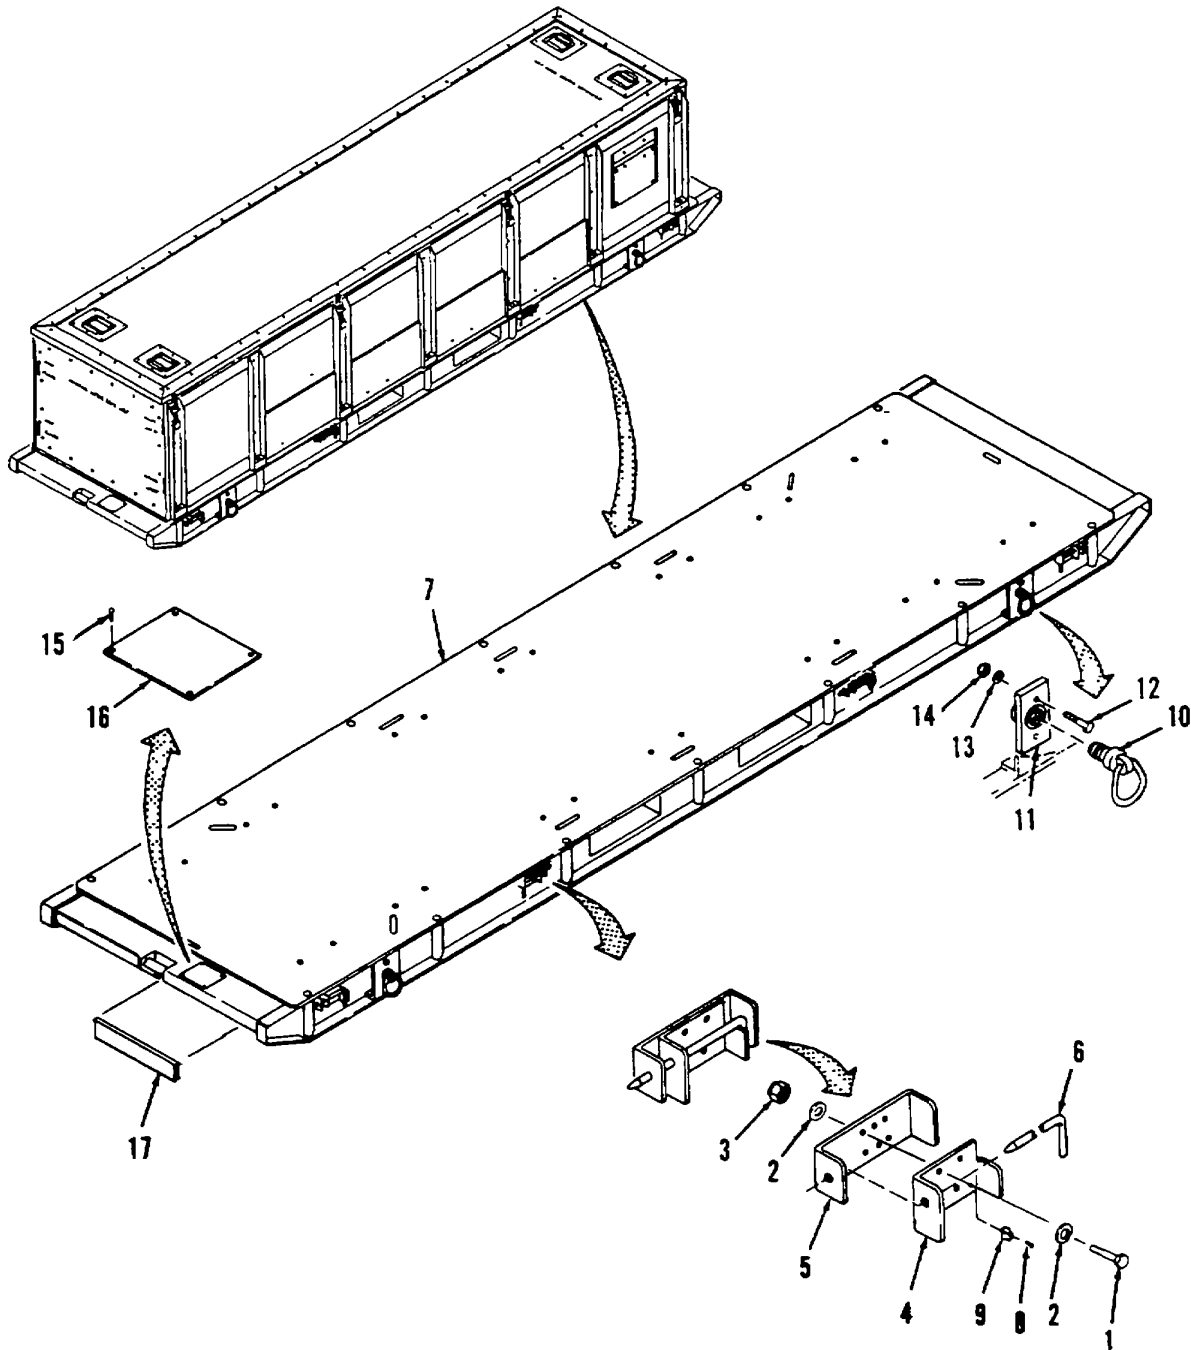

Figure 4-6. Skid Assembly, Repair.
a. Disassembly. (Refer to Figure 4-6.)